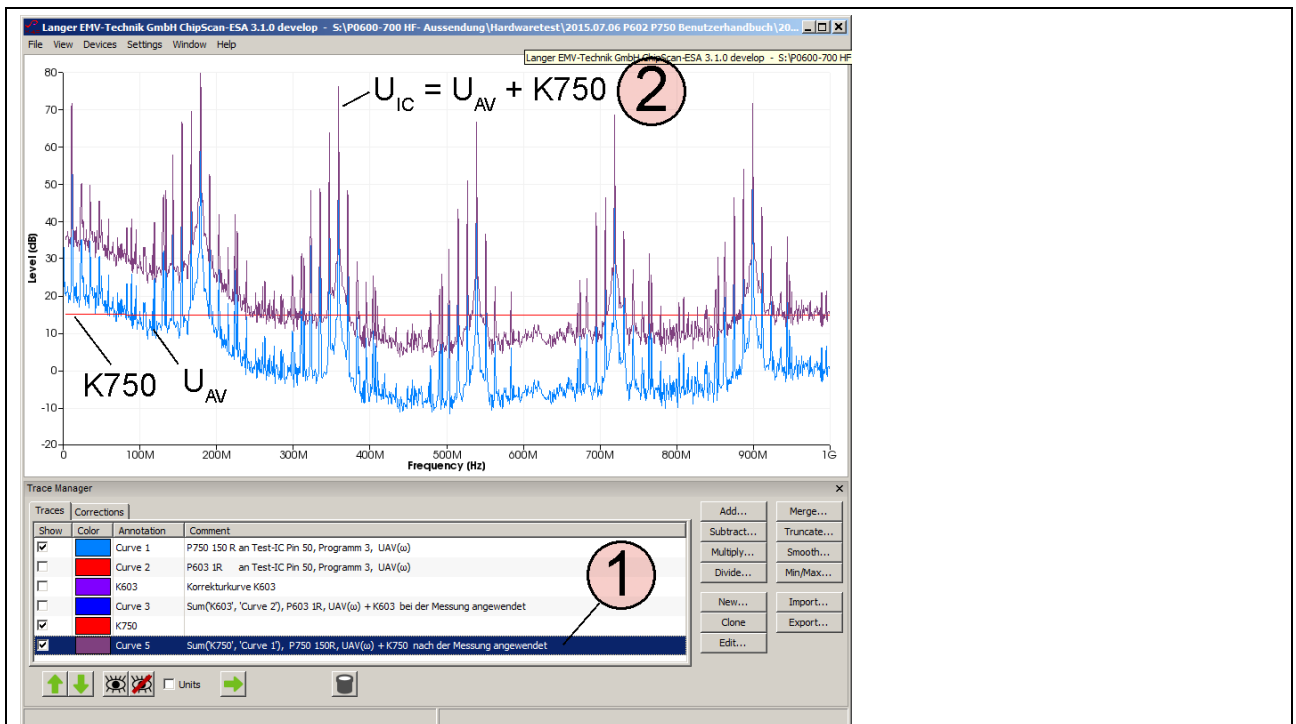

Figure 33: Correction after the measurement; result of the addition $U_{IC} = U_{AV} + K750$
The calculation creates the entry ① **Figure 33**) at the bottom of the "Traces" list and is displayed as "Curve 5" (② **Figure 33**).